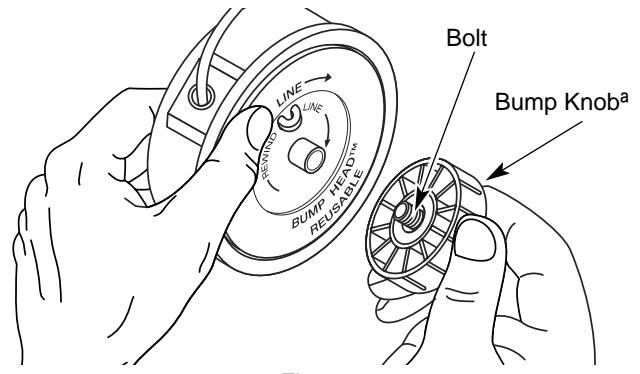

Fig. 15
1. Hold the outer spool with one hand and unscrew the Bump Knob^a counterclockwise (Fig. 15). Inspect the bolt inside the Bump Knob to make sure it moves freely. Replace the Bump Knob if damaged.
1. Hold the outer spool with one hand and unscrew the bump knob counterclockwise (Fig. 15). Inspect the bolt inside the bump knob to make sure it moves freely. Replace the bump knob if damaged.